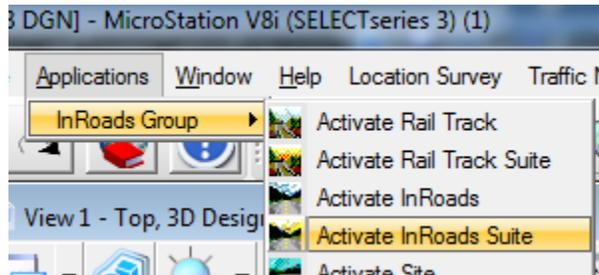

Figure 4 - Open InRoads
- L. Open InRoads. In the MicroStation menu bar, select **Applications > InRoads Group > Activate InRoads Suite**, see Figure 4.